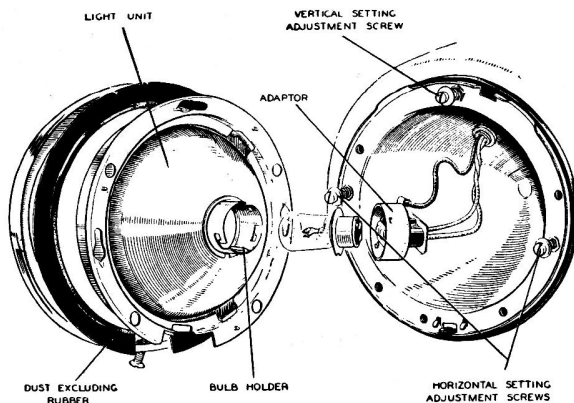

Fig.10.29. Headlamp removal (non-sealed beam)
- 3 To remove **non-sealed beam headlamps**, (Fig.10.29) take out the rim securing screw which will be found at the bottom of the rim and then pull out on the rim at the bottom to release it from the lipped catch at the top.